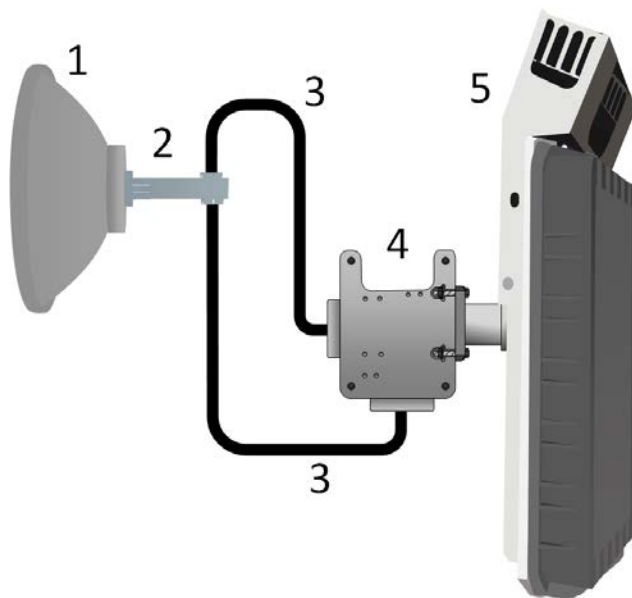
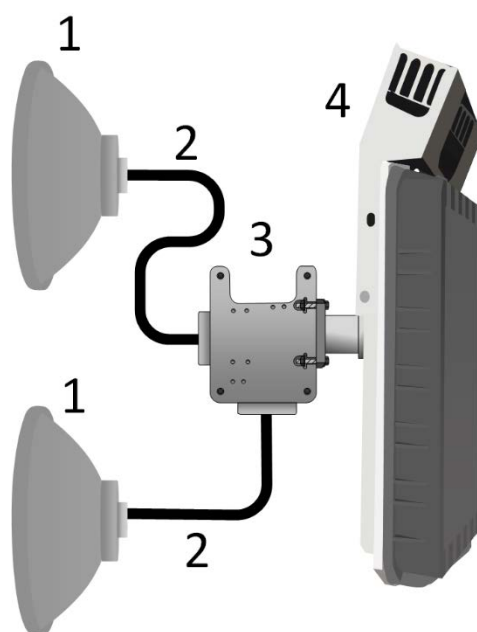

Figure 5-29 1+1 HSB/FD mode (FODU)
Figure 5-30 1+1 SD mode (FODU)
The connection scheme examples for 1+1 redundancy configurations for Integra-X/-X2 FODU are given in Figure 5-29 and Figure 5-30. 1+1 HSB/FD scheme includes an antenna (1), a coupler (2), waveguides (3), a tower mountable OMT (4) and a single FODU (5). 1+1 SD scheme includes an antenna (1), waveguides (2), tower mountable OMT (3), and a single FODU (4).